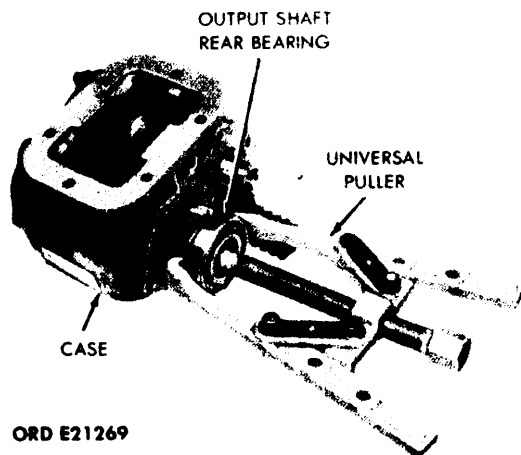

Figure 5-9. Removal of Output Shaft Rear Bearing.
(1) Push or tap output shaft rearward enough to allow the rear bearing (fig. 5-9) to be removed.
(2) Using a universal puller remove the output shaft rear bearing. (See fig. 5-9.)
- f. Output shaft rear bearing. (See fig. 5-9.)